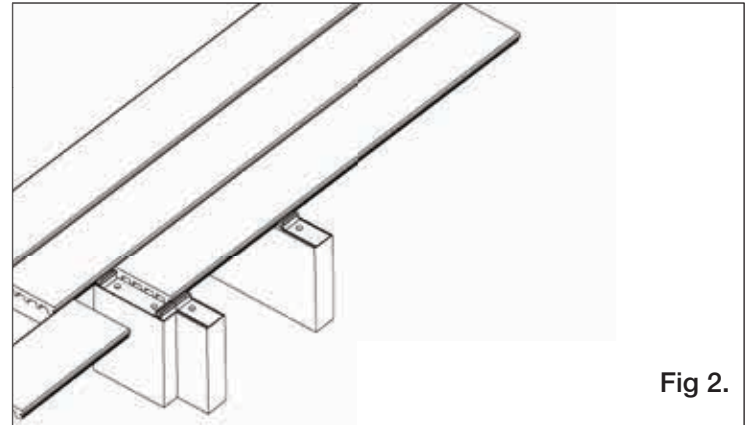

Fig 2.
2. Two inline boards cannot share a Step-Clip. Sister additional framing where butt joint occurs then trim a Step-Clip to accommodate each board and attach separately to the additional framing. (Fig. 2)